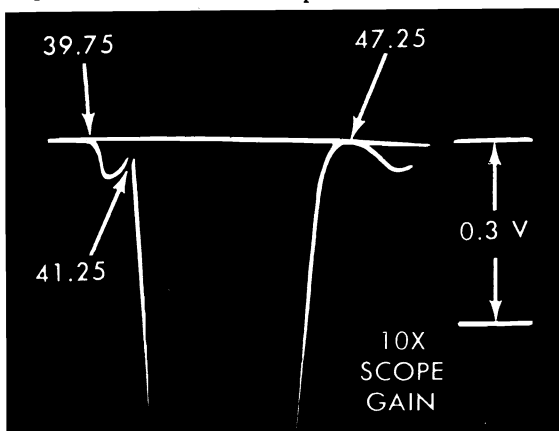
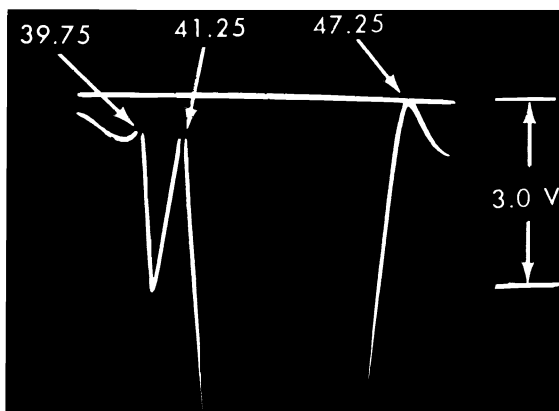
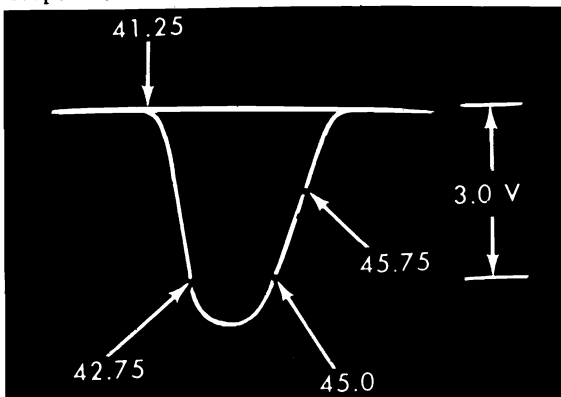
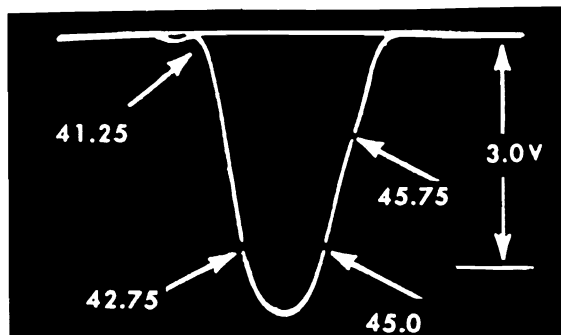

Fig. 6 Expanded View of Traps
Fig. 7 Further Expansion of Fig. 6 for Detail View of the 39.75 and 47.25 Mc Traps.
Fig. 8 Overall IF Response
Fig. 9 Overall IF Response
5. Connect the sweep generator to terminal "A" (converter grid). Connect terminal "F" to chassis and connect a jumper between terminal "E" and chassis. Adjust the sweep to obtain a 3V.P.P. response similar to Fig. 8. Switch oscilloscope to 10X gain to "blow up" the traps, (Fig. 6).
6. Refer to Fig. 6 and adjust the 39.75 Mc and the 41.25 Mc traps for minimum marker amplitude. Disconnect the jumper between "E" and chassis. Connect this jumper between "E" and the junction of the 22 (68 in the 15L27 chassis) and 1800 ohm resistors in the cathode of the first IF. This provides an additional "blow up" of the 47.25 Mc traps (Fig. 7). Adjust the 47.25 Mc traps (the 15L23, 15L27 and 16L24 chassis have one 47.25 Mc trap) for minimum marker amplitude.
7. Disconnect the jumper between "E" and the 22 and 1800 ohm cathode resistors. Connect this jumper between "E" and chassis. Adjust sweep generator for 3 volts peak to peak output. Alternately adjust the 2nd, 3rd, 1st IF and the converter plate coil until an overall response similar to Fig. 8 (Fig. 9 for the 15L27 chassis) is obtained.